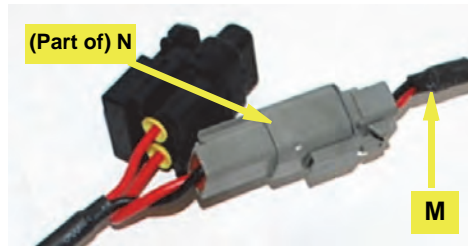

Figure 8c: Power cable to junction box cable
d. Connect the gray connector of the power cable **M** (routed into the cab at step 8a) to the gray cable from the junction box **N** (Figure 8c).